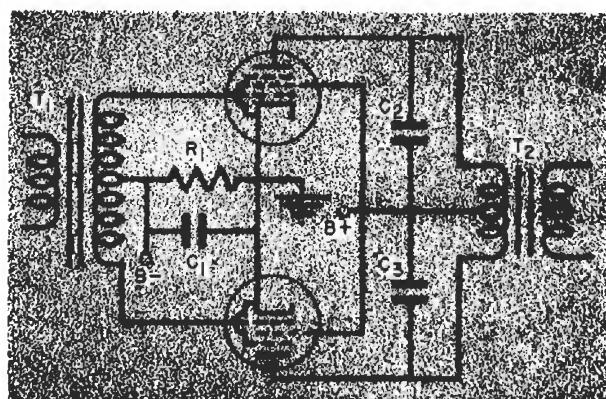

FIG. 23. A typical push-pull output stage.
stage, because this is usually the only stage where enough power is available to sustain the oscillations. A pentode output stage is particularly subject to these oscillations, because such a stage has high gain, has a tube with a relatively coarse screen grid structure (so that the inter-electrode capacity is high), and uses circuit elements which readily permit parasitic oscillations. This trouble is most common when the output stage is run as a class AB or class B push-pull amplifier, where a low-resistance input transformer must be used. A typical circuit is shown in Fig. 23.
► Manufacturers generally use condensers such as C_2 and C_8 of Fig. 23 in circuits where parasitics may develop, to make the plate load more capacitive. Such condensers should be right at the tube socket, a position which makes the effective length of the plate leads shorter, reducing further the inductance effects as well as the ability to feed back.
In the circuit shown in Fig. 23, the